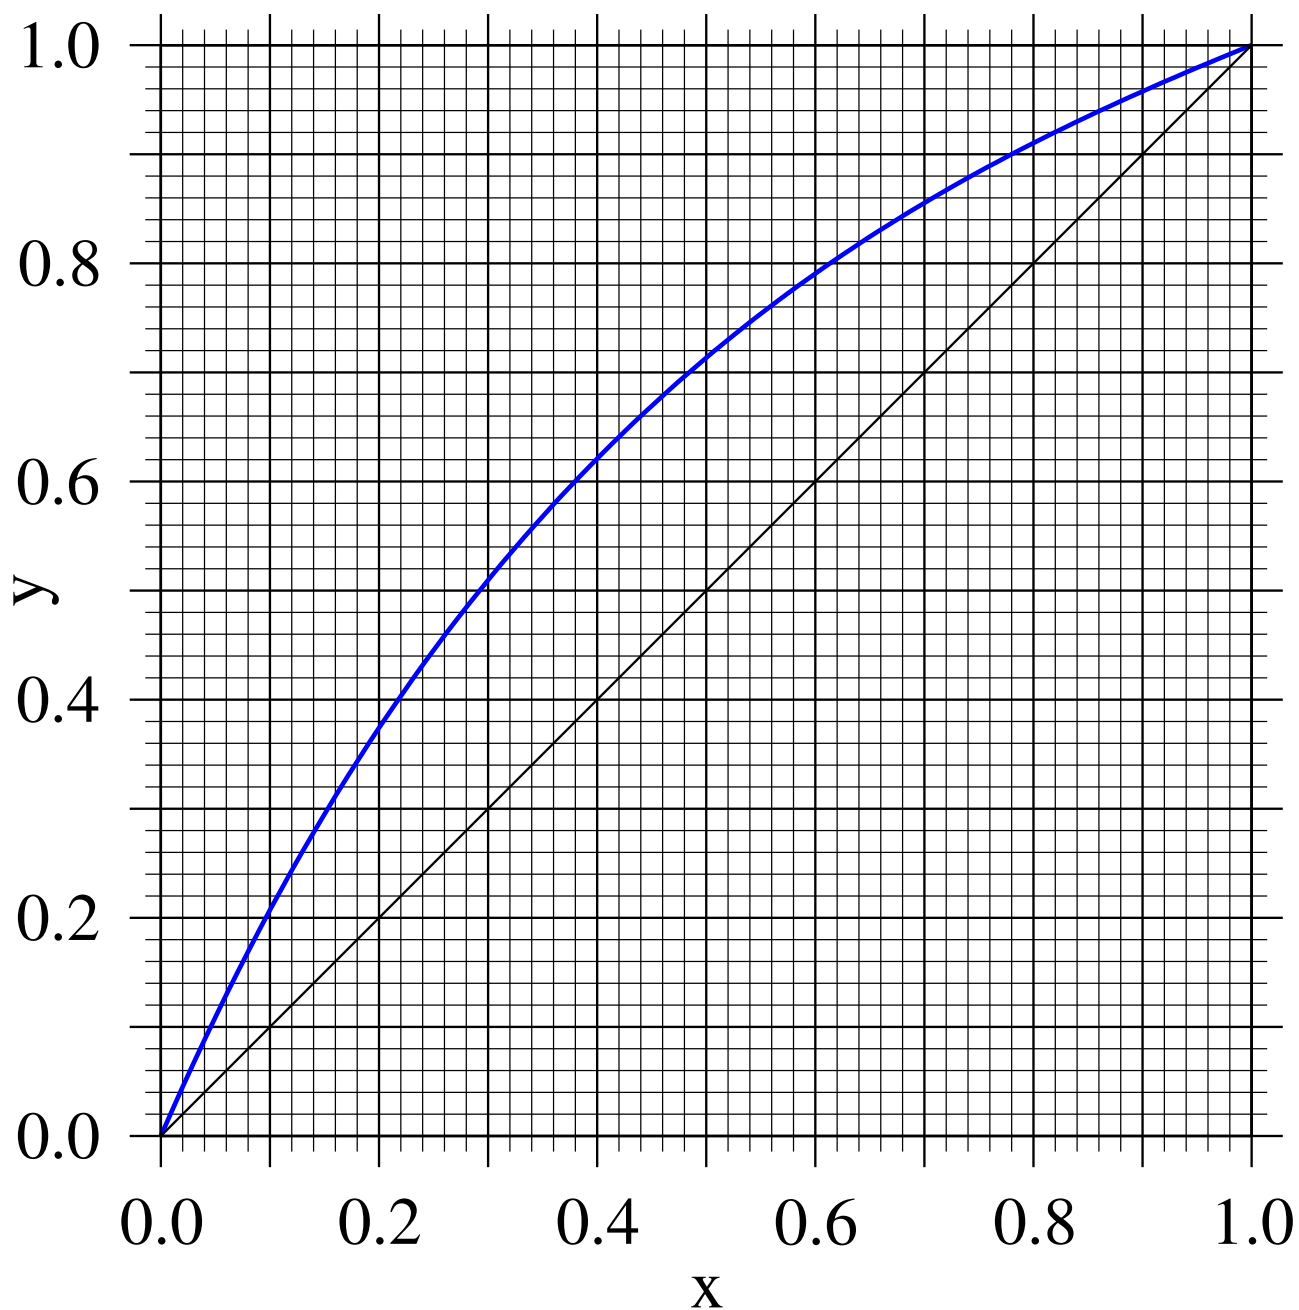
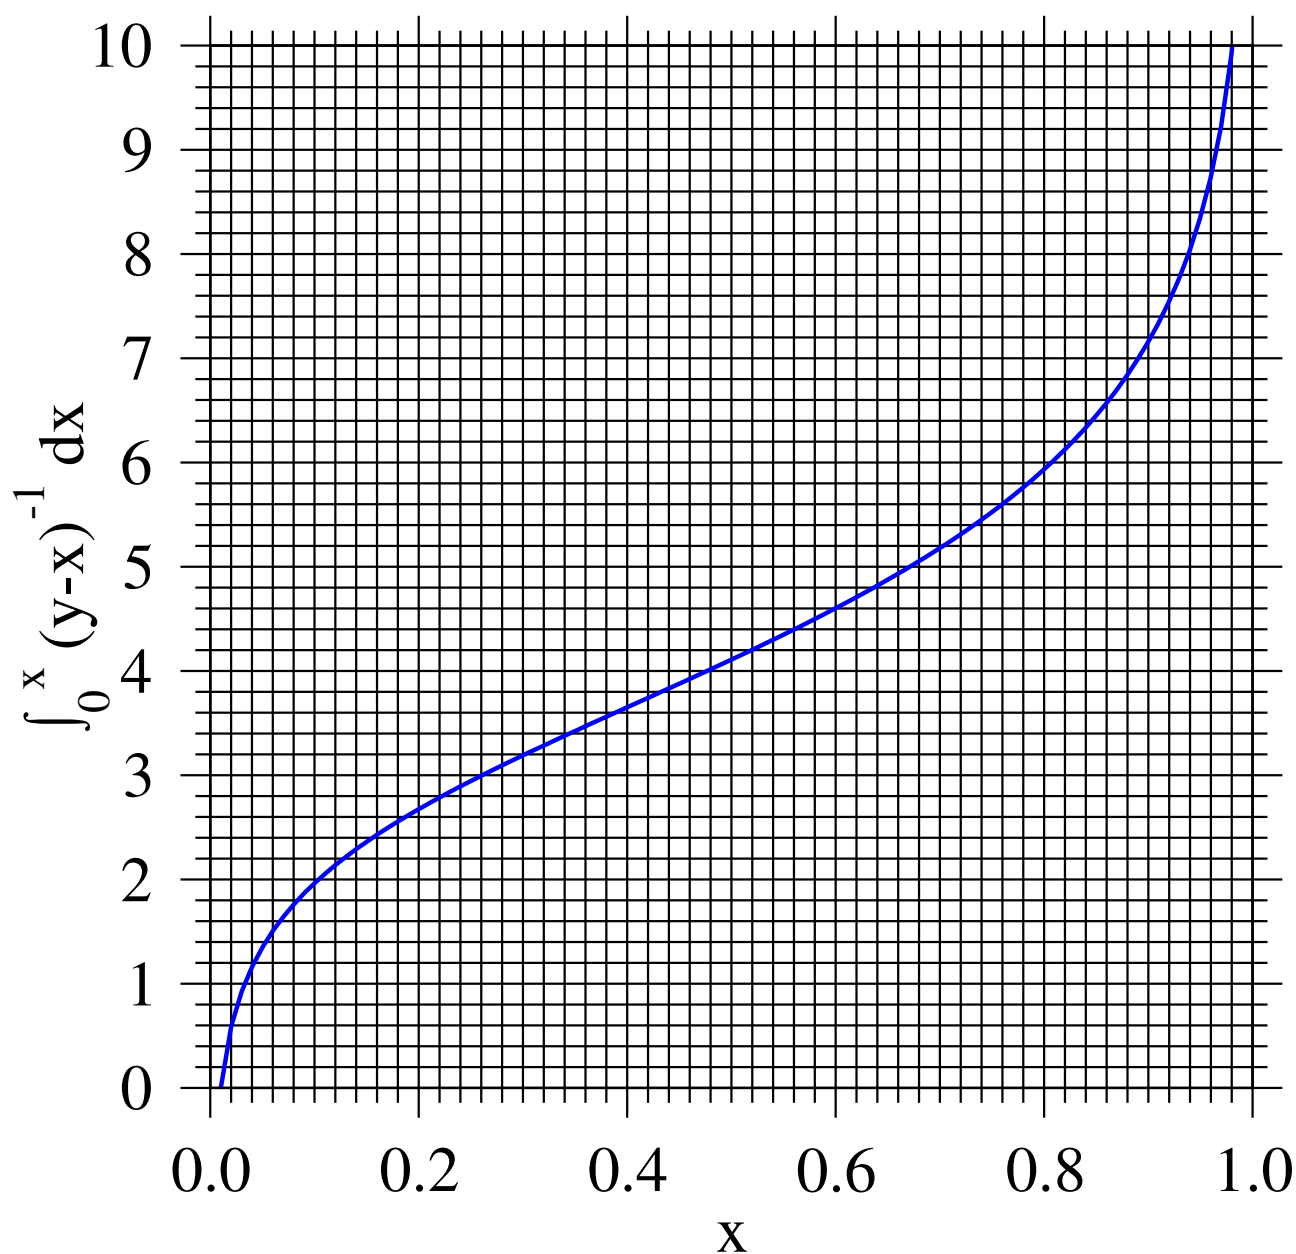

Figure 12: VLE data for benzene( $x/y$ )-toluene mixtures. For use in Q. 19, 20, and 30.
Figure 13: Integrated VLE data for benzene( $x/y$ )-toluene mixtures. For use in Q. 19 and 20.
- What is the outlet concentration of the vapour and liquid streams from a flash drum? The flash drum is operated so that only 20% of the feed stream is vapourised.  $x$ - $y$  VLE data is available in Fig. 12. [7 marks]
- What is the average vapour concentration and the final liquid concentration if the same feed is supplied to a single-stage batch still instead? You should assume the same proportion of vapour is produced as in the flash drum. Integrated VLE data is available in Fig. 13 for this calculation. [8 marks]
A 10,000 kmol benzene-toluene mixture is sent for batch distillation at atmospheric pressure. Integrated VLE data is available in Fig. 13 and standard VLE data is available in Fig. 12.
A continuous distillation column is being used to separate benzene from toluene. There are six plates above the feed plate and the column is operated with a reflux ratio of 3. When the feed composition is 40 mol% benzene, the top product has a composition of 97 mol% benzene. VLE data for the system is provided in Fig. 12.